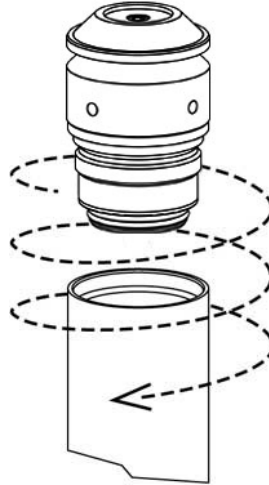

Figure 52. PG7601 piston-cylinder module installation
- ➌ **Place the piston-cylinder module in the PG7601 Platform mounting post.** Lubricate the module threads very lightly with the Krytox grease supplied with the PG7601 accessories. Place the piston-cylinder module (thread down) into the PG7601 Platform mounting post (see Figure 52).